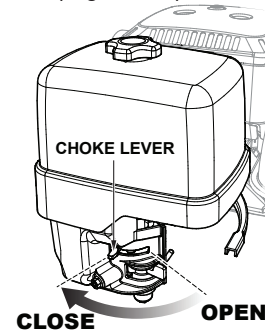

Figure 16. Engine Choke Lever (Closed)
4. If starting a cold engine or starting in cold weather, place the choke lever (Figure 16) in the **CLOSED** position.